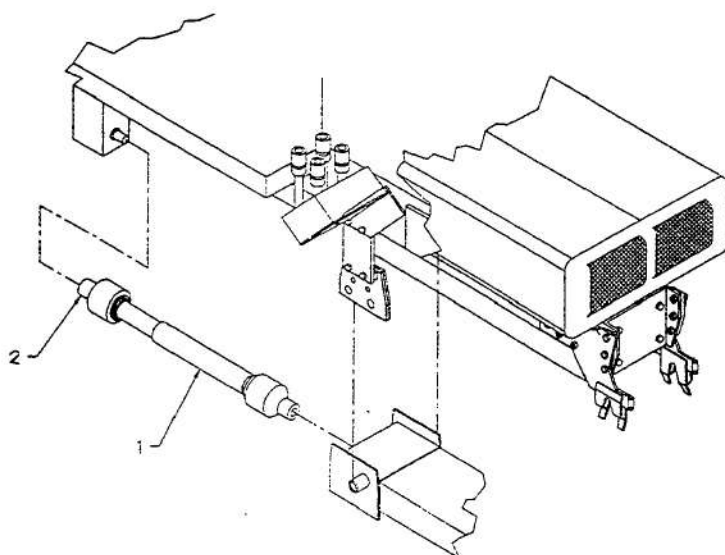

FIGURE 18
Connect long driveline (fig. 18, item 1) to mid PTO under tractor using the new quick release yoke on this shaft (fig. 18, item 2). Connect other end of driveline to shaft in subframe. Make sure driveline is well secured at both ends.
- e) If using a power driven attachment, connect long driveline to tractor mid PTO using the quick release yoke (fig. 18, item 2). Be sure driveline is securely fastened at both ends.